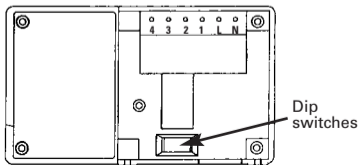

Fig. 1
2. The RWB27 is factory set to provide 2 on/off switching periods per day and each day will be the same, i.e. daily operation. To select the other styles of switching you will have to alter the dip switches which are to be found at the bottom rear of the unit (see Fig. 1) into the relevant position for the style of operation you require.